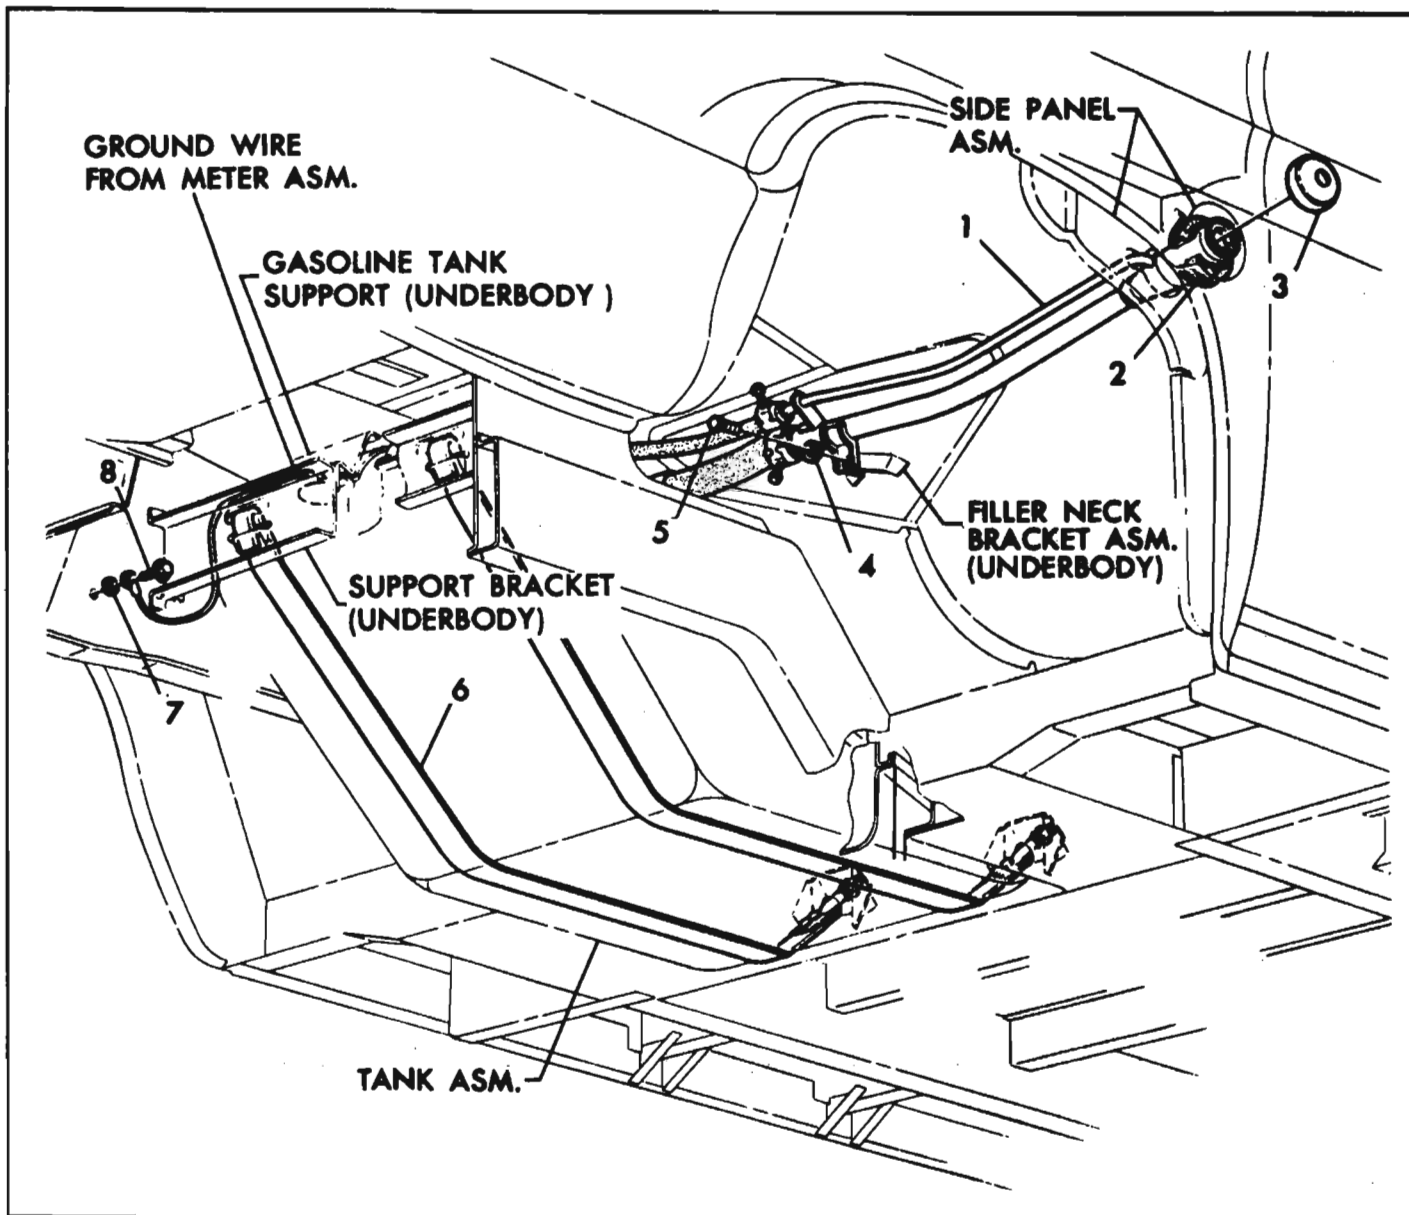

Fig. 9-45—Fuel Tank
The fuel tank (fig. 9-45) on all Corvair 95 and Greenbrier Series, with a 18.6 usable gallon capacity, is mounted over the front cross-member and just ahead of the cross sill. It is held in place by two metal straps, attached at one end to a support bracket and at the other adjustable end, through the cross sill.
1. Disconnect filler neck and vent pipe hose clamps (fig. 9-45).